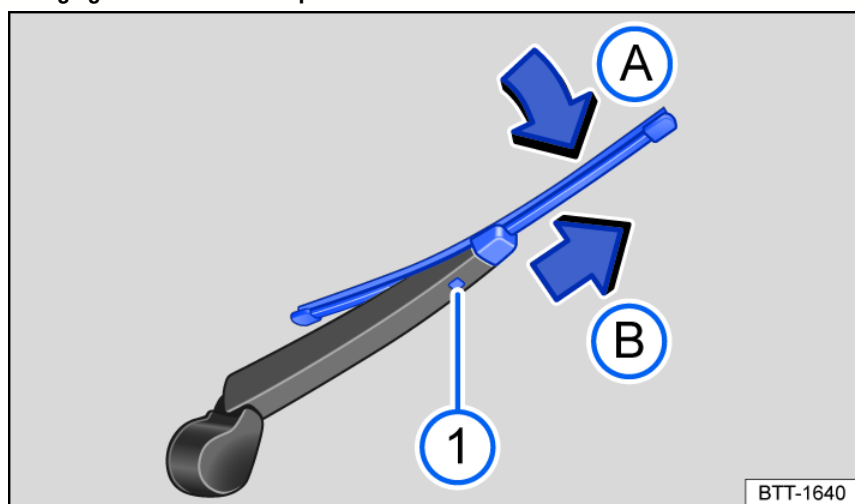

Fig. 173 Changing the rear window wiper blade.
- Press and hold the release button fig. 173 Ⓛ.
- Tilt the wiper blade toward the wiper arm fig. 173 (arrow ⓐ) while removing it in the direction of the arrow ⓑ. You may need to use more force to do this.
- Insert a new wiper blade of the **same length and type** on the wiper arm in the opposite direction of the arrow until it engages fig. 173 (arrow ⓑ). The wiper blade must be folded out when doing this fig. 173 (arrow ⓐ).